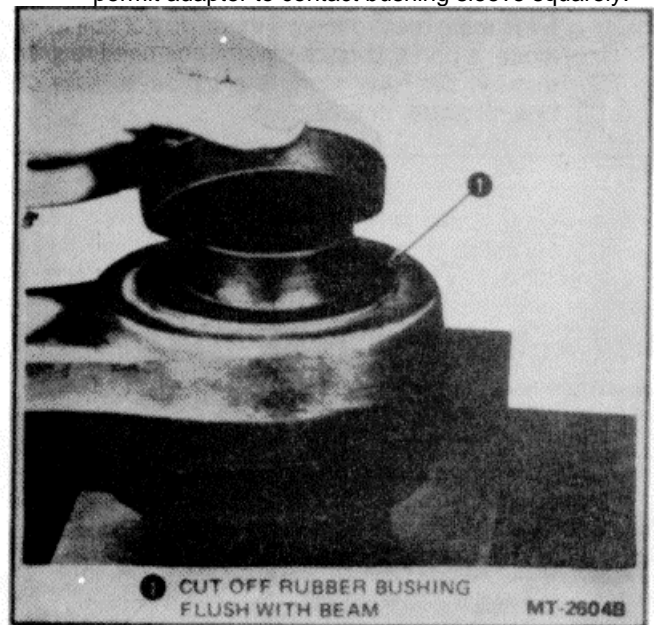

Figure 6 - Preparing for Removal of Beam End Bushing Bushing
1. Cut off rubber bushing flush with equalizer beam, as shown' in Figure 6. Rubber must be removed to permit adapter to contact bushing sleeve squarely.
1. Cut off rubber bushing flush with torque rod, as instructed for equalizer end bushing removal. Refer to Figure 6.